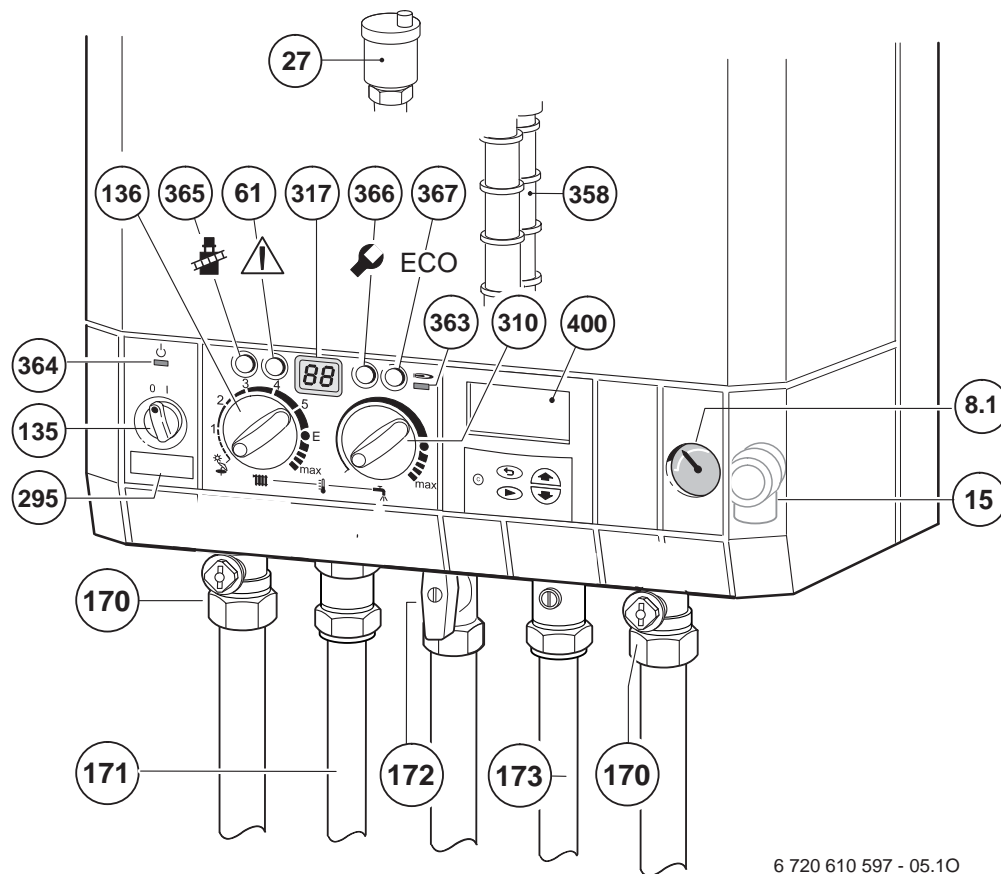

Fig. 30
- ▶ Unscrew the condensation trap (358) and pull out, fill with approx. 1/4 l of water and refit. Refer to fig. 30.
- ▶ Check automatic air vent is open, item 27, see fig 30
- ▶ Turn on service valves (170), fill central heating system to pressure of 1 - 2 bar through the WRAS approved filling loop. Refer to fig. 30.
- ▶ Turn on cold water service cock (173). Refer to fig. 30.
- ▶ Turn on gas cock (172). Refer to fig. 30.